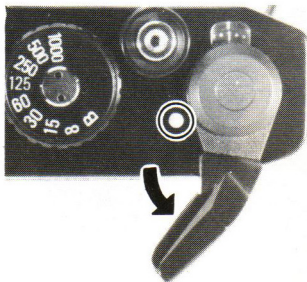

Fig. 12
1. When Film Advance Lever (11) is moved to "ON" position (Fig. 12), the electric circuit is switched on and Shutter Release Button (9) is unlocked.
2. Move Film Advance Lever (11) to "ON" position (Fig. 12)
3. Hold your camera, look at your subject through the Viewfinder Eyepiece (24) and check Exposure Meter Needle (37).